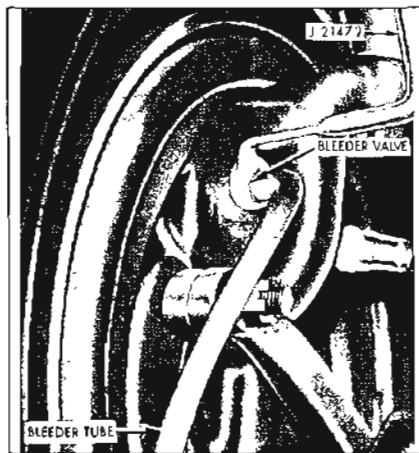

Figure 9-9—Bleeding Front Wheel Cylinder
2. Install bleeder Wrench J-21472 on bleeder valve. Slip a brake bleeder tube over ball of wheel cylinder bleeder valve. Place lower end of bleeder tube in a clean glass jar. Unscrew bleeder valve 3/4 of a turn. See Figure 9-9.
3. Install bleeder Wrench J-21472 on bleeder valve. Slip a brake bleeder tube over ball of wheel cylinder bleeder valve. Place lower end of bleeder tube in a clean glass jar. Unscrew bleeder valve 3/4 of a turn. See Figure 9-9.
2. Loosen jam nut from clevis, and adjust clevis in or out as required to give specified adjustment for manual and power brake pedal as shown in Figure 9-9.